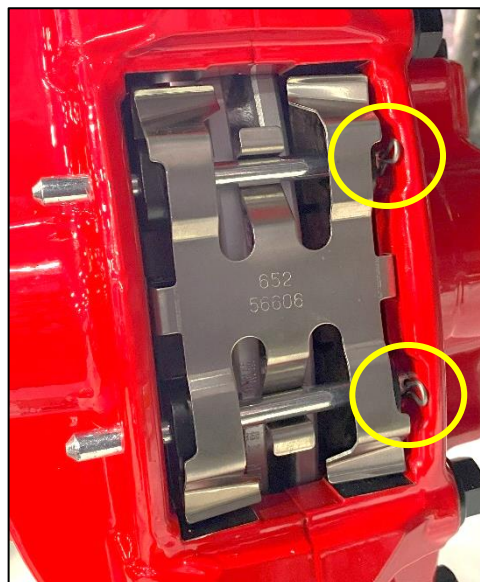

Figure 10
19. Locate (2) two Cotter Pins. Insert them through the Brake Pad Retaining Pins installed in *Step 18*. The Retaining Pins may need to be rotated to allow access for the Cotter Pin Holes. *Figure 10.*